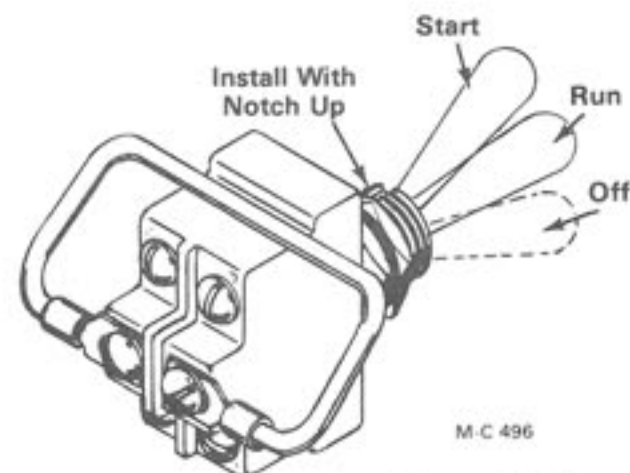

Figure 16 - New Unload Auger Switch
2. Install the new START-RUN-OFF switch in the control panel with the notch in the threaded portion of the switch UP, see Figure 16.